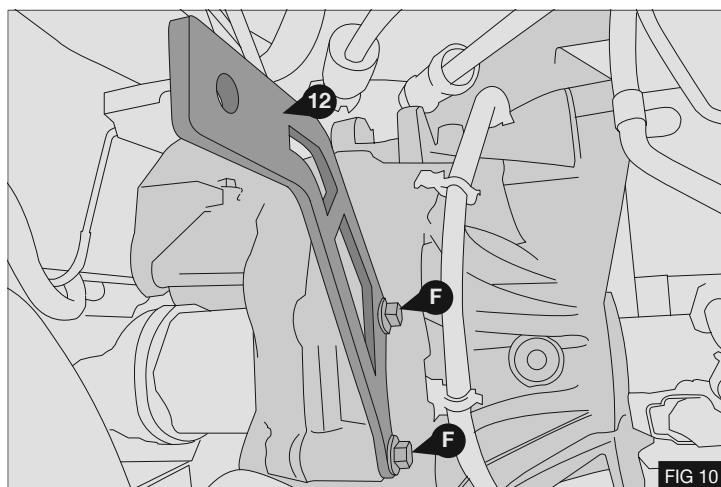

FIG 10
2. Install the gearbox hose support (12) at the point shown using the original fasteners (F) - Fig 10